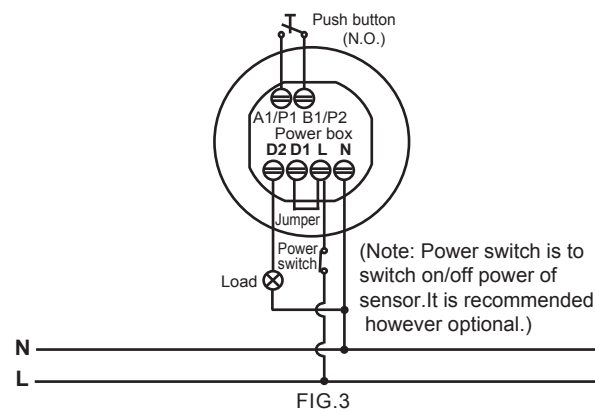
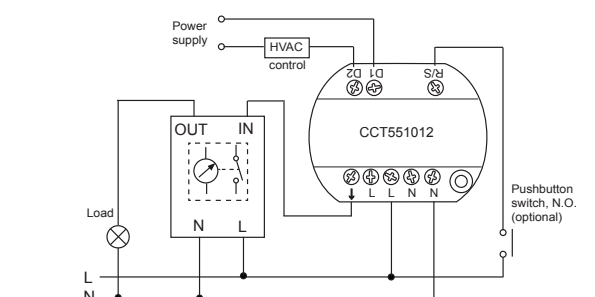

FIG.3
Fig 8. Sensor used with a stairwell timer circuit
- One sensor controls one load (See FIG.3).
- 3.2.2.2 The R/S terminal provides an optional connection point for a pushbutton. Fig 8 shows how to connect the sensor to a stairwell timer circuit.
- 3.3.3.2 Pull out cables from standard junction box (See FIG.14), then strip off 6 - 8 mm of cable sheathing for wiring, and refer to the wiring diagrams for correct cable connections (See FIG.3 - FIG.8).